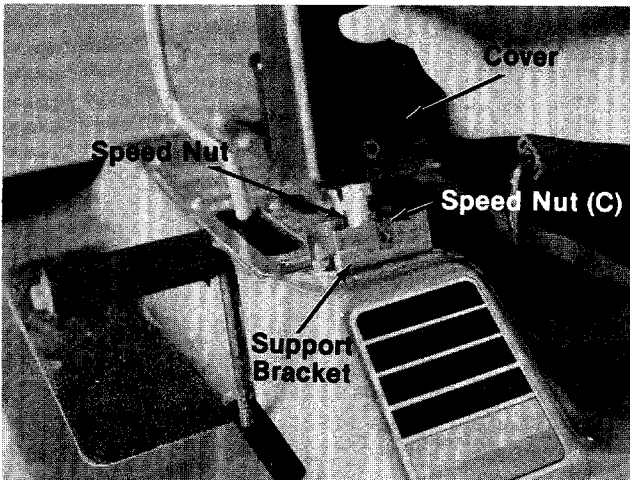

FIGURE 3.
5. Place two speed nuts (C) on support bracket as shown in figure 3. ←
6. Place the cover over the steering tube assembly. Line up holes in cover with speed nuts. See figure 3.